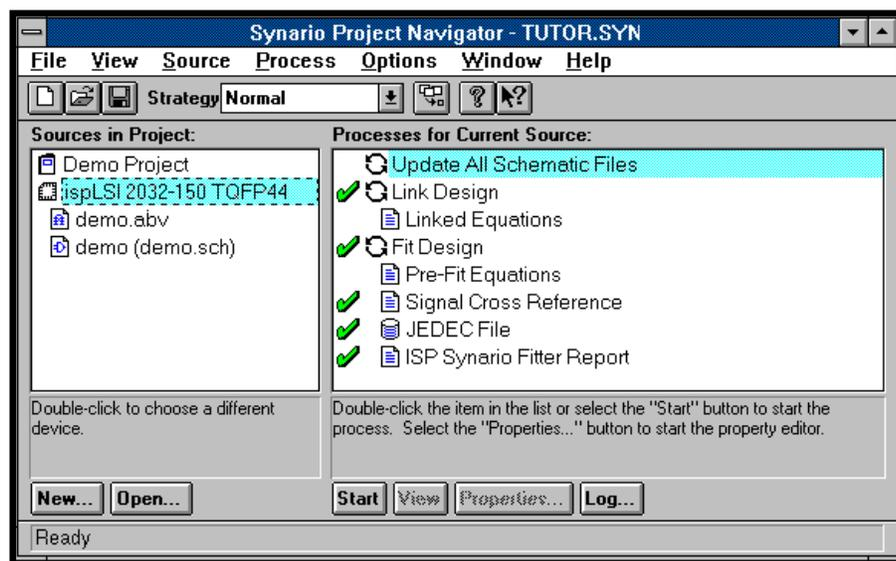

Figure 1-18. Synario Project Navigator After the Fitter Process
37. When the process is complete, the Synario Project Navigator window returns (Figure 1-18). Note that check marks have been added to Fit Design processes that have been successfully completed.